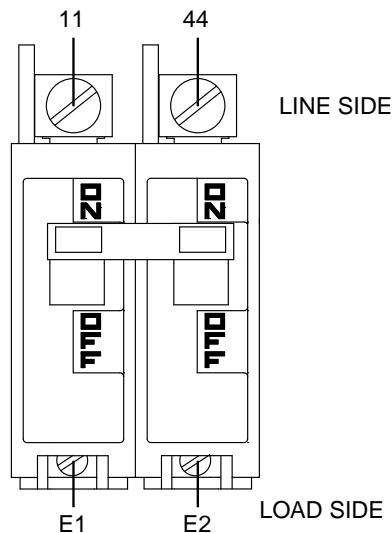

Figure 80. Main Line Circuit Breaker
3. Connect one meter test lead to the Wire 11 terminal on the breaker and the other test lead to the E1 terminal. See Figure 80.